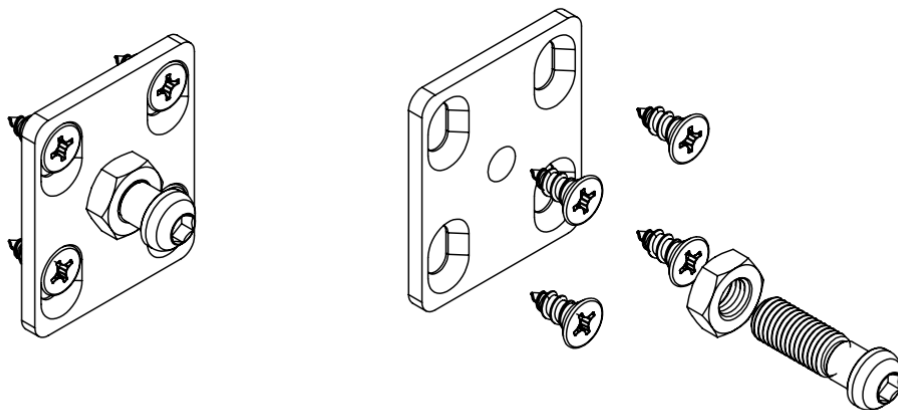

Figure 4
6. Drill four (4) $\frac{3}{16}$ " clearance holes at the marked locations of the strike plate. Anchor the lock strike to the jamb with #10 x 2-1/2" PH Flat Head screws. Shim as needed to avoid bowing the frame. For Bi-part conditions use #10 x 1/2" PH Flat Head Screws (See Figure 4).